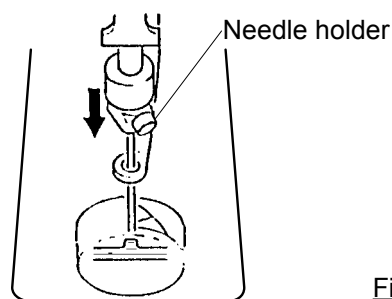

Fig. 4
4. Lower the needle holder by pressing down with fingers on Fig. 4.